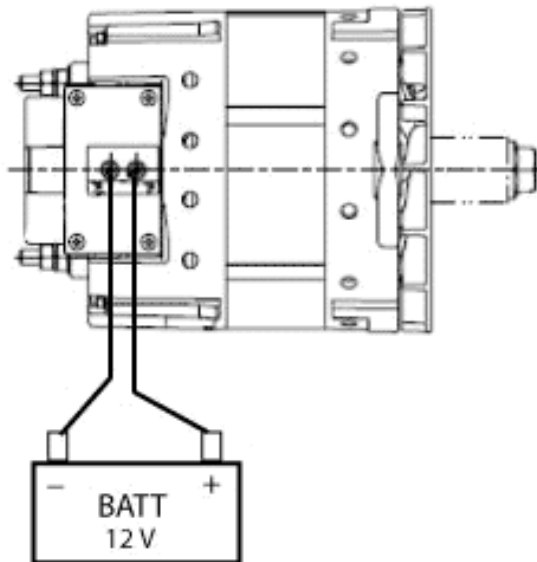

Figure 4
E. Connect the alternator field terminals directly to the 12V batteries (see Figure 4).